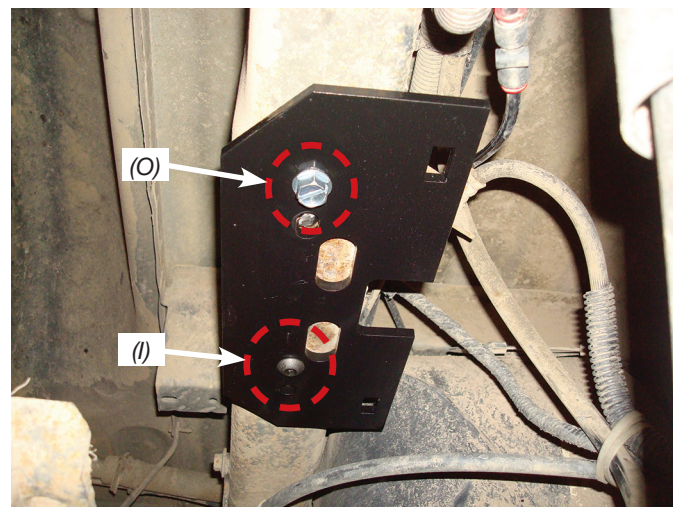

fig. 6
3. Insert and tighten a self-tapping bolt (O) into the hole drilled. Torque the bolt to 15 lb.-ft. (20Nm) (Fig. 6).
Figure 6 shows the upper bracket installed to the frame using the supplied M10 bolt (I) and a self-tapping bolt (O). Use the self-tapping bolts only if the existing jounce bumper bolts break.